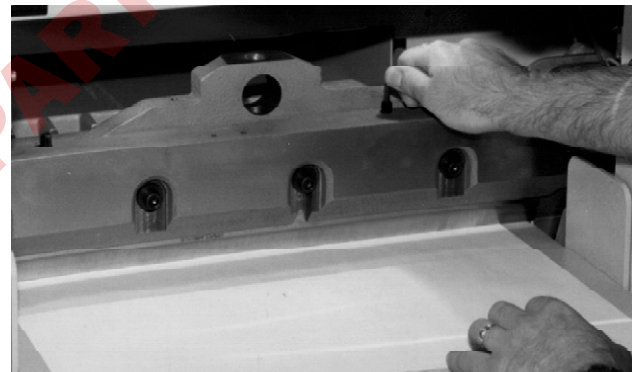

fig. 13
13. Turn the knife adjusters down evenly, a little at a time, until the knife cuts through the bottom sheet of paper the entire length of the cutting stick (fig. 13). Turning the screws down evenly prevents uneven wear on the knife and cutting stick.